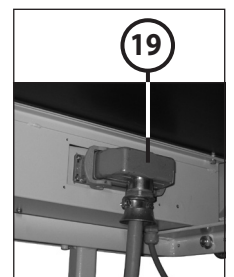

fig. 9
4. Insert the connection plug of the baler into the socket (19) on the right-hand side of the inner housing wall of the shredder and lock (fig. 9).